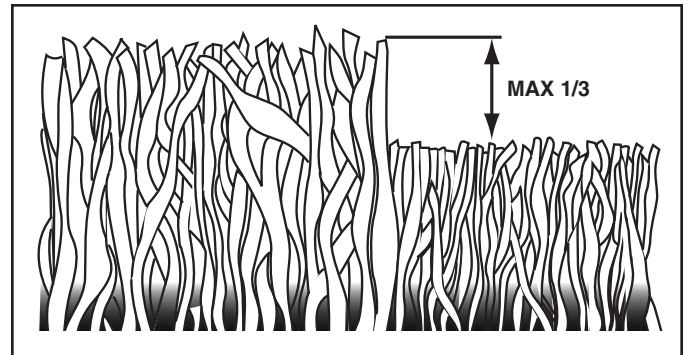

FIG. 17
- For best results, adjust the lawn mower cutting height so that the lawn mower cuts off only the top one-third of the grass blades (See Fig. 17). If the lawn is overgrown it will be necessary to raise the height of cut to reduce pushing effort and to keep from overloading the engine and leaving clumps of mulched grass. For extremely heavy mulching, reduce your width of cut by overlapping previously cut path and mow slowly.